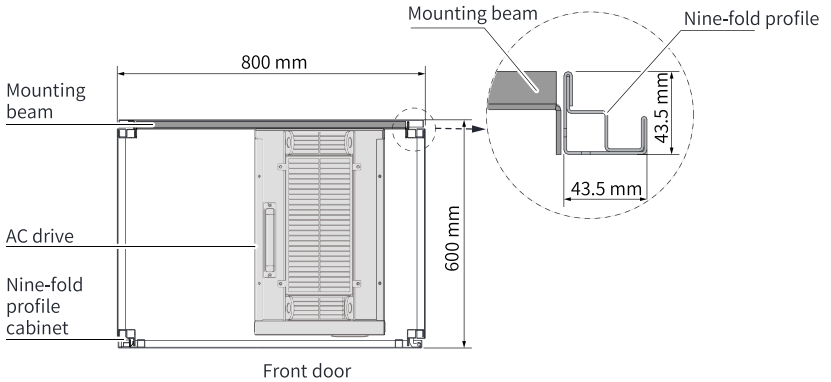

Figure 5-5 Top view of a cabinet for T10 and T12 models
*"Figure 5-5 Top view of a cabinet for T10 and T12 models" on page 68 shows the cross sectional area of the nine-fold profile.*